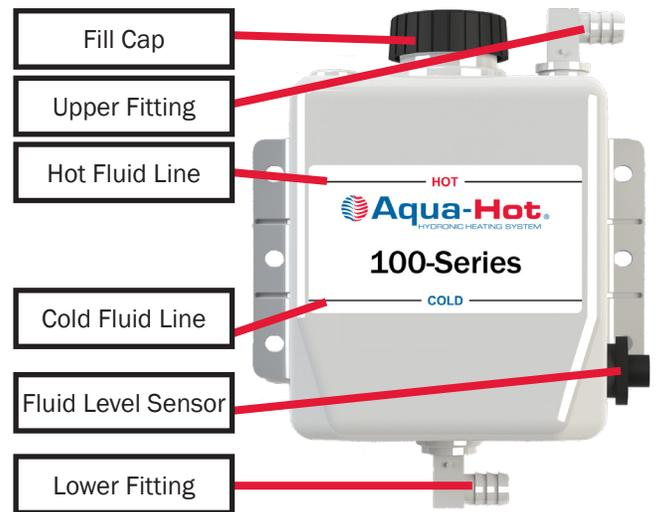

Figure 17.
5. Place a hose which runs from the lower fitting of the expansion bottle to the expansion bottle connection shown in Figure 17. Secure this hose in place with 2 constant tension hose clamps.